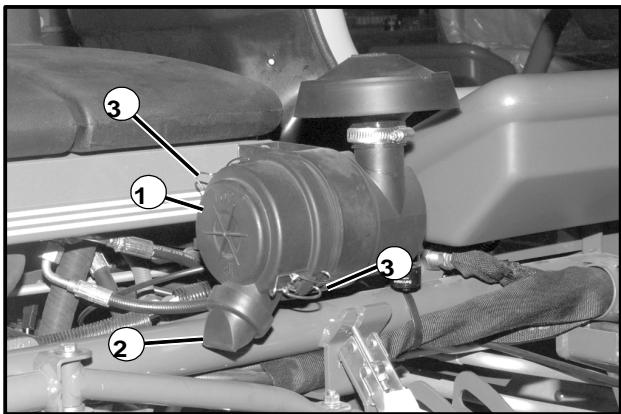

Figure 29
4. Install the air cleaner cover over the element with the dust collector pointing **DOWN** (dust collector empties automatically when properly installed). Secure the cover with the two wire bails (See Fig. 29).